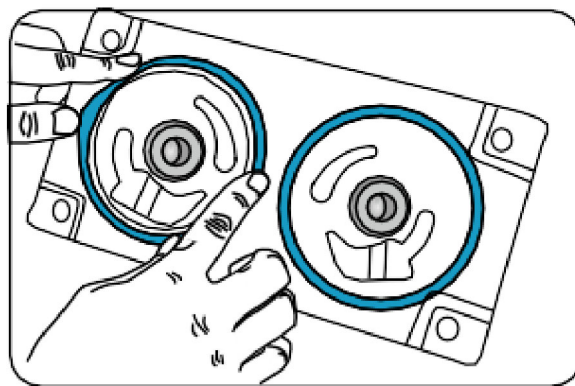

Figure 5-7
10. Place door gaskets onto freezing cylinder door. (Figure 5-7.)